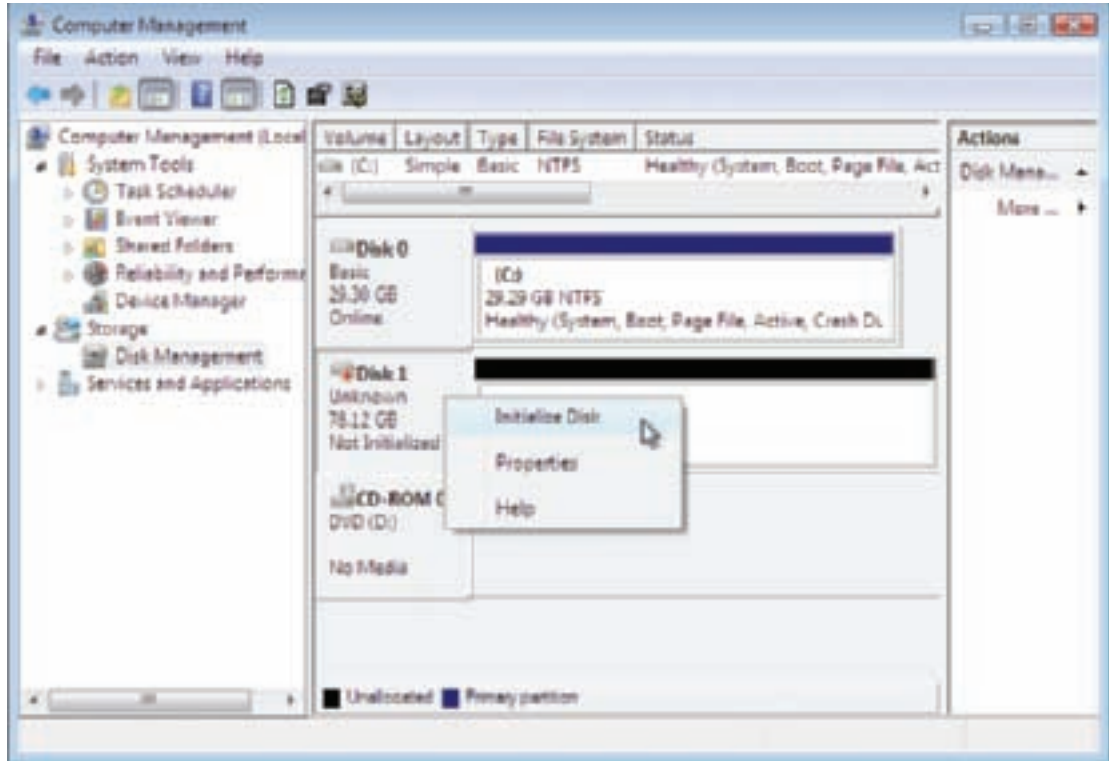

Figure 8-28 Use Disk Management to partition the new drive
2. Click **Start**, right-click **Computer** (for Windows XP, right-click **My Computer**), and select **Manage** from the shortcut menu. Respond to the UAC box. In the Computer Management window, click **Disk Management**. The Disk Management window opens (see Figure 8-28).
3. In Figure 8-28, the new hard drive shows as Disk 1. Right-click **Disk 1** and select **Initialize Disk** from the shortcut menu, as shown in the figure.